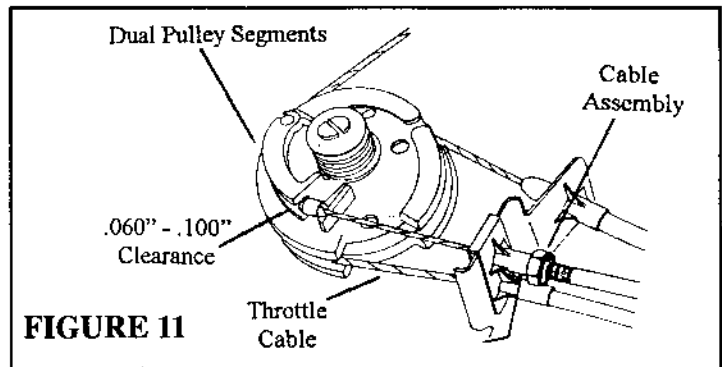

FIGURE 11
5. Attach the **T-Bar Adapter** to the **Bead Chain Connector**. Make sure to slide the **Bead Chain Cover** over **Bead Chain Connector**. (Figure 11)